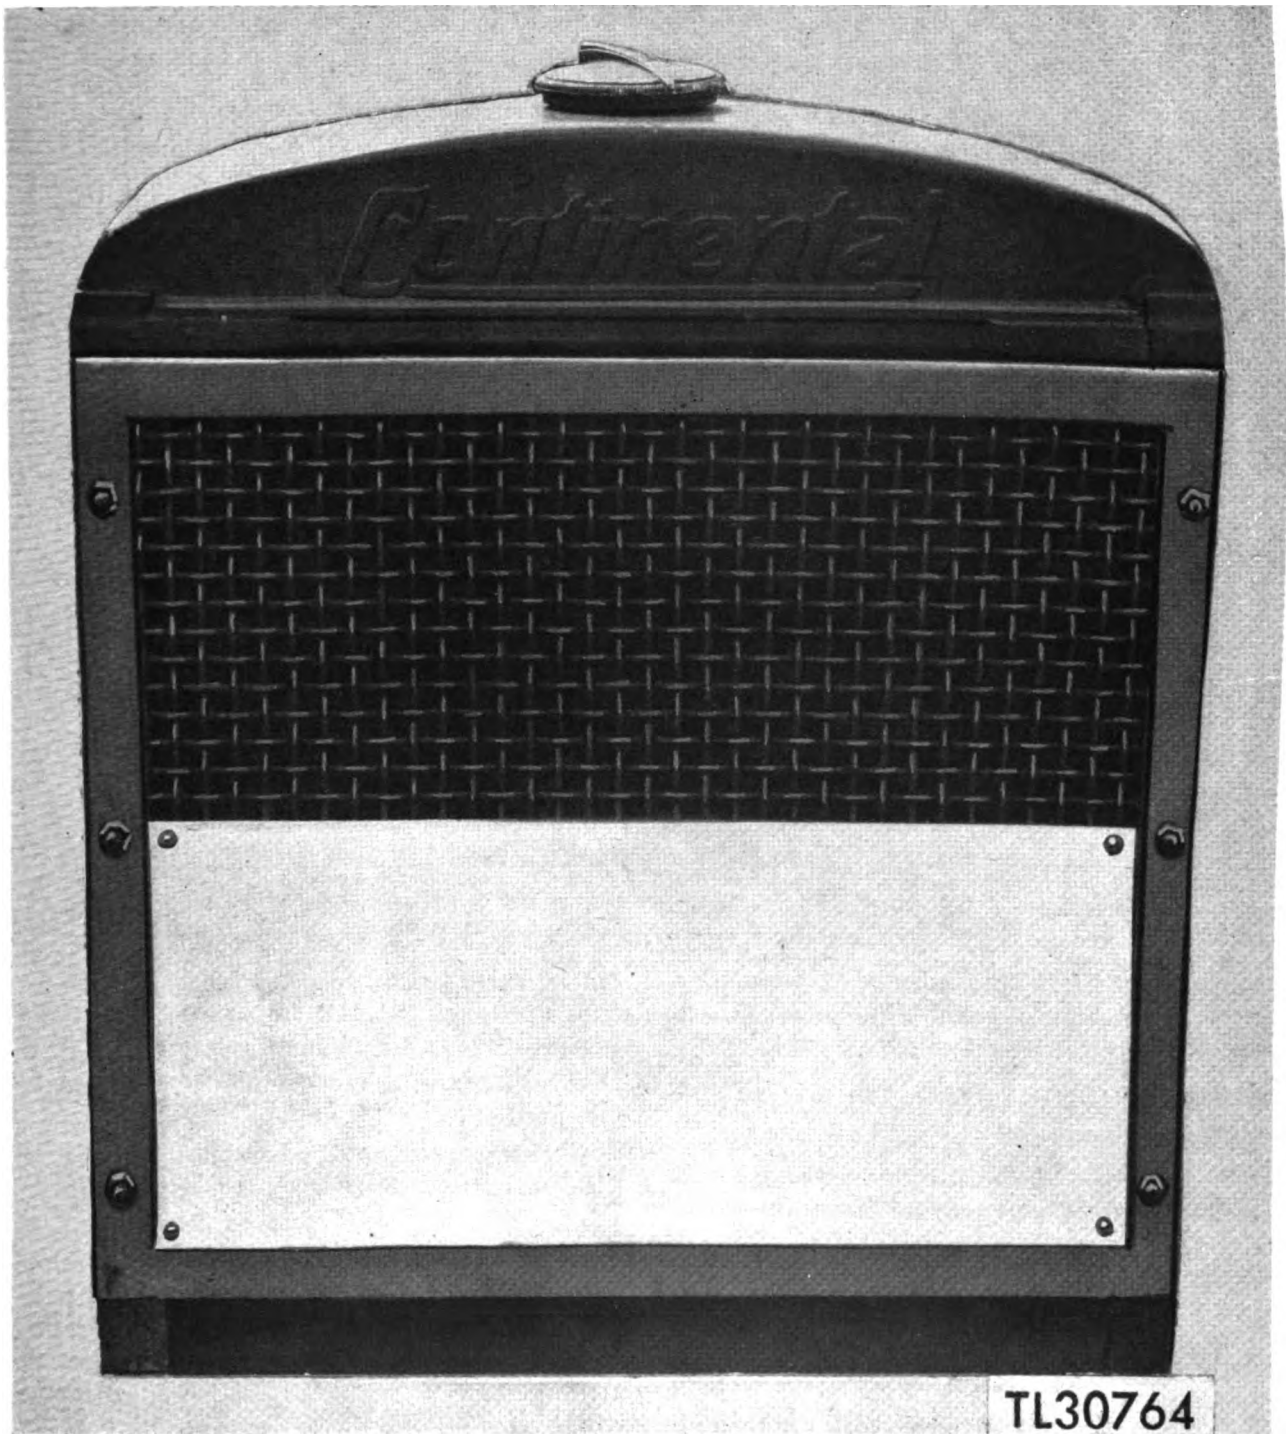

Figure 54. Radiator with cardboard protector.
c. If the engine water temperature is too low, raise it by placing a cardboard or canvas shield on the radiator grill. Never cover more than three-fourths of the radiator grill (fig. 54). If the temperature is too high, make sure the grill is not shielded or obstructed. The engine water temperature can be raised or lowered also by opening or closing the van door. (See Caution under Remarks.)